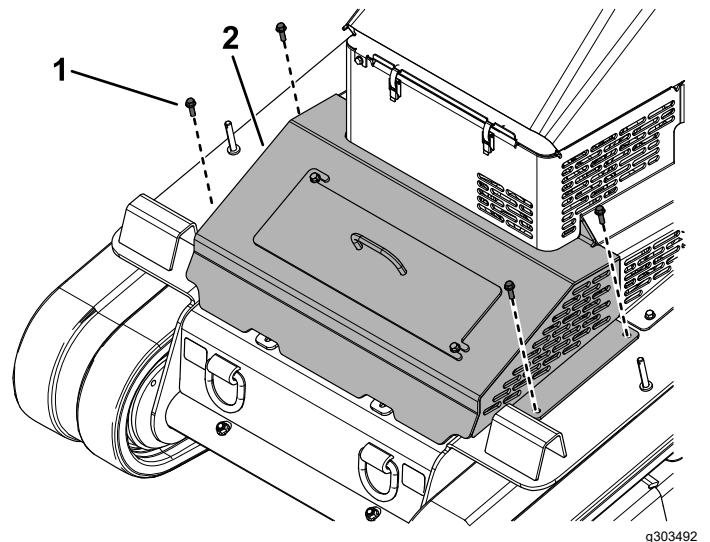

Figure 39
2. Remove the 4 bolts securing the cover assembly to the machine (Figure 39).
1. Bolt (4)
3. Remove the cover assembly (Figure 39).